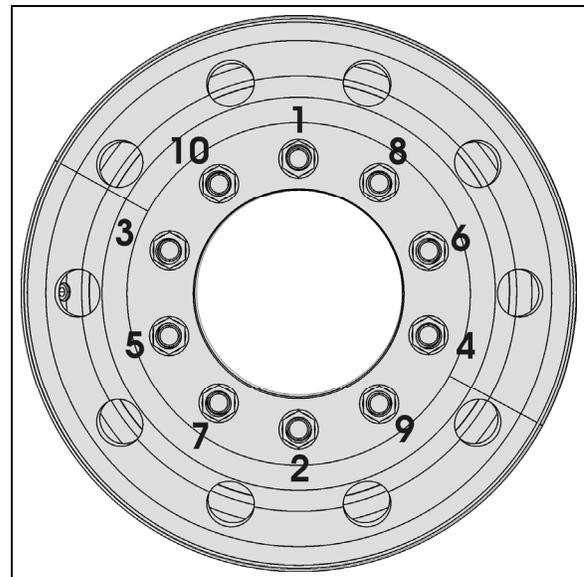

FIGURE 2: TIGHTENING SEQUENCE 13018
It is also important that wheel stud nuts be tightened alternately on opposite sides of the wheel. Refer to Figure 2 for the suggested tightening sequence.
Tighten stud nuts progressively as shown in Figure 2. The final tightening should be done with a torque wrench. Tighten stud nuts to 475±25 lbf-ft (645±35 Nm) for aluminum as well as steel wheels.
2. Screw in the hex stud nuts (refer to Figure 2 for sequence) so that wheel will position itself concentrically with hub. This is important, otherwise wheel may be eccentric with hub and will not run straight. In this initial step, slightly tighten the nuts to correctly position the wheel;
3. Tighten stud nuts progressively as shown in Figure 2. The final tightening should be done with a torque wrench. Tighten stud nuts to 450 - 500 lbf-ft (610 - 680 Nm) for aluminum as well as steel wheel.
With inner and outer wheels installed, tighten the stud nuts progressively as shown in Figure 2. The final tightening should be done with a torque wrench. Tighten stud nuts to 450 - 500 lbf-ft (610 - 680 Nm) for aluminum as well as steel wheel.
Repeat for each of the 10 "hex stud nuts" according to the tightening sequence in figure 2.
Using a calibrated torque wrench, tighten wheel nuts to 450 - 500 lbf-ft (610 - 680 Nm) of torque. Do not use power tools or long bars for tightening. Tighten wheel nuts alternately as shown in figure 2.